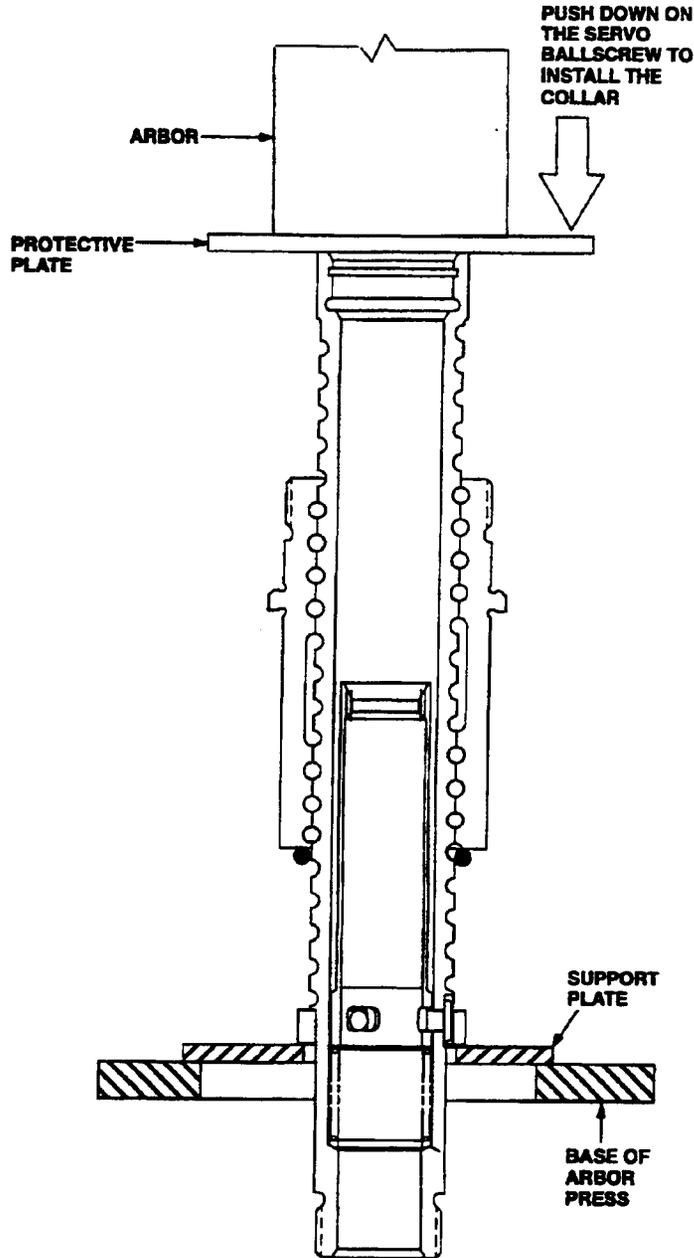

Figure 8. Install the Collar on the Servo Ballscrew
- 3 Put a nonferrous support plate below the collar as shown in Figure 8.